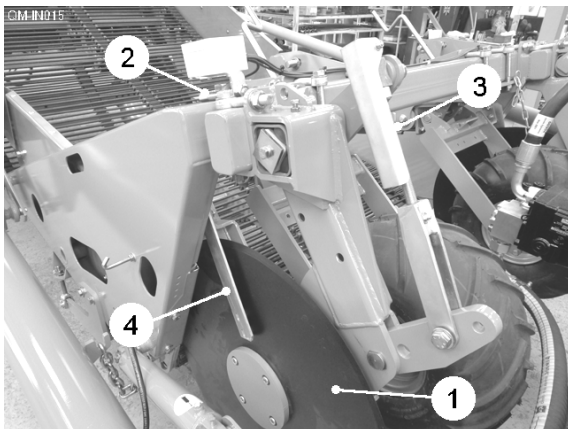

Fig. 6
On row work, the harvester is fitted with four disc coulters (item 1, fig. 6). On full width bed work, the harvester is fitted with two disc coulters. The discs run on either side of the ridge, cutting and parting the haulm and trash in front of the shares whilst at the same time containing the ridge and feeding it over the shares onto the digger web.
To set the disc coulters row width/cutting width, release the clamp bolts (item 2, fig. 6) and slide the disc assembly along the bridge beam to the required position. When correctly set the discs should be approximately 20mm clear of the edge of the share blades. To set the disc coulters depth, on the outer discs turn the adjuster handle (item 3, fig. 6) which also increases the spring load on the disc. On the inner discs, loosen the clamp plate and raise/lower the complete disc unit. The disc coulters are each fitted with a scraper (item 4, fig. 6). This should be set as close to the disc as possible without fouling it.